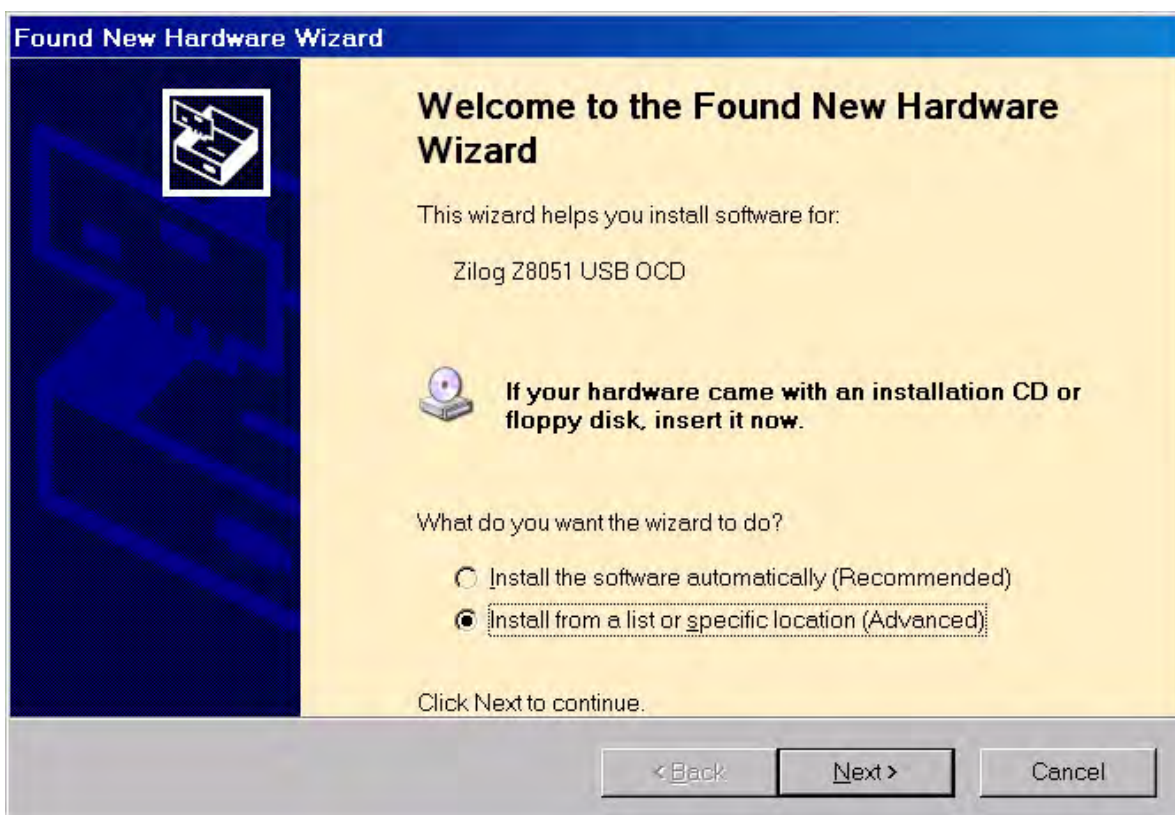

Figure 68. The Found New Hardware Wizard Welcome Screen
2. After the PC detects the new hardware, it will display the **Found New Hardware Wizard** dialog box, shown in Figure 68. Select **Install from a list or specific location (Advanced)**; then click **Next**.
► **Note:** On some installations, the Found New Hardware screen shown in Figure 68 may also display the text string, Zilog Z8051 USB OCD - No Firmware. This occurrence is normal and can be disregarded.